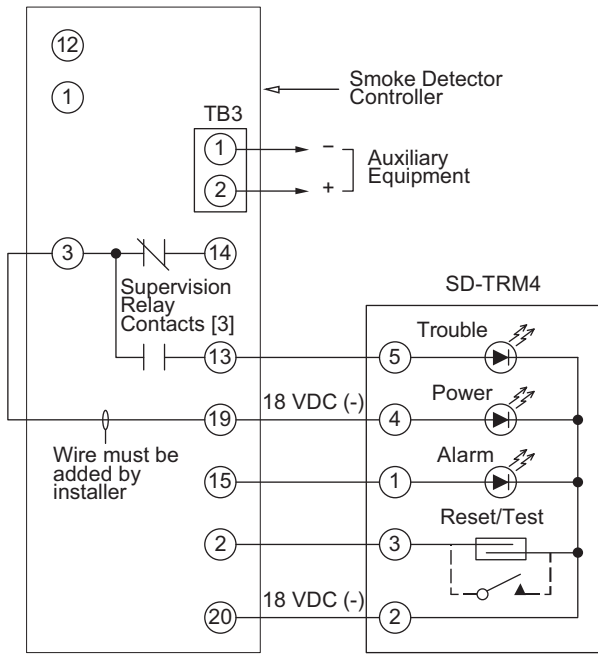

Fig. 48 — Remote Test/Reset Station Connections
The test/reset station dirty sensor test checks the test/reset station's ability to initiate a sensor dirty test and indicate the results. It must be wired to the controller as shown in Fig. 48 and configured to operate the controller's supervision relay. For more information, see "Dirty Sensor Test" on page 34.
1. Verify that the remote test/station is wired as shown in Fig. 48. Repair or replace loose or missing wiring.